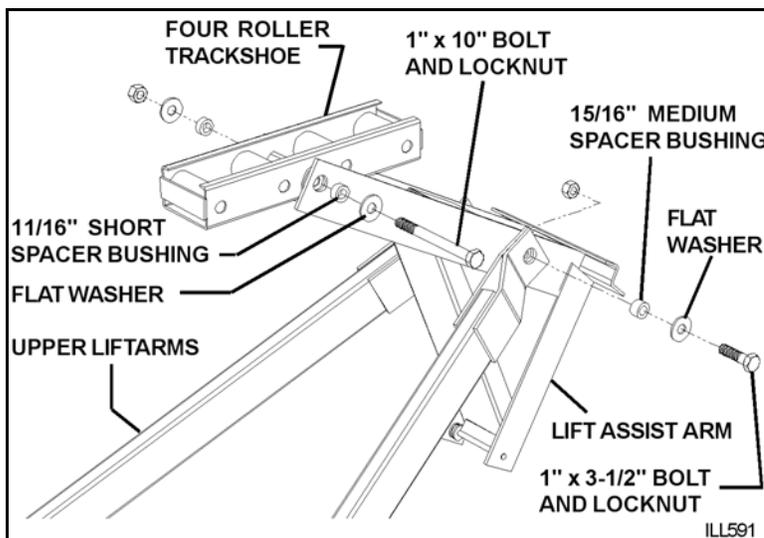

Figure 3.19
14. Attach upper lift arms to center hole on the lift-assist arms (Figure 3.19) with two 15/16" medium spacers, flat washers, and two 1" x 3-1/2" bolts and locknuts. **Tighten securely**; lift arms will pivot on the spacer bushings.